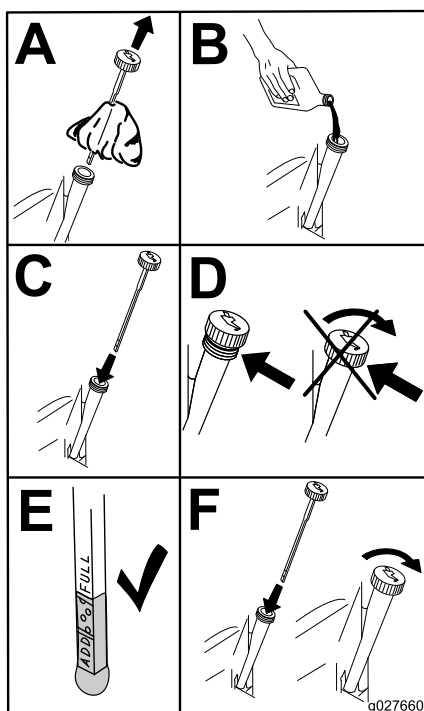

Figure 46
6. Slowly pour approximately 80% of the specified oil into the filler tube and slowly add the additional oil to bring it to the **Full** mark (Figure 46).